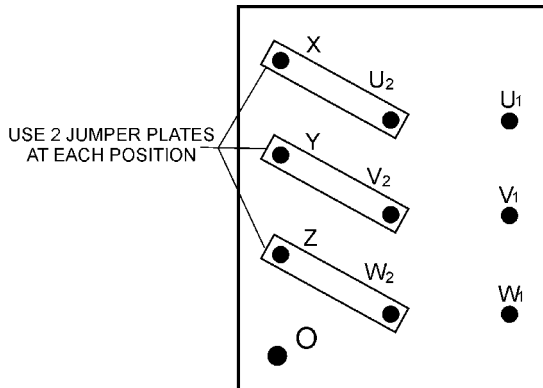

Figure 22. Voltage ChangeOver Board 480V Configuration
1. Jumper the voltage changeover board for 480V operation as shown in Figure 22. This configuration uses 6 jumper plates in 3 different positions. Remember there are 2 jumper plates at every position. Every jumper plate **must** be used.
1. Make sure the voltage changeover board is jumpered for 480V operation as shown in Figure 22.